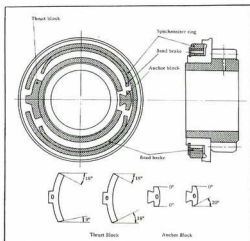

Fig. TM-21
5. Install Brake band as shown in Fig. TM-21.